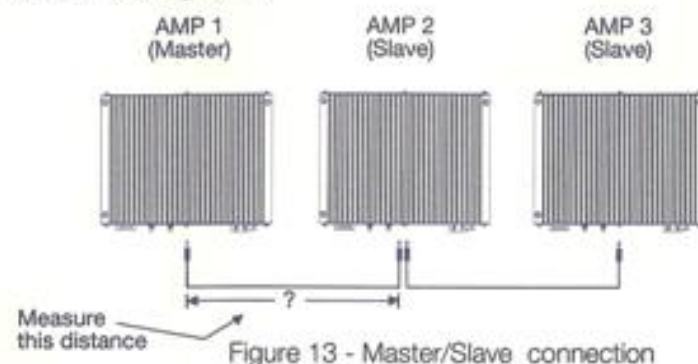

Figure 13 - Master/Slave connection
3. Measure the distance from the first amplifier's "master" output jack to the next amplifier's "slave" input jack (See figure 9). If you use more than 2 PHOENIX GOLD Amps, connect them "daisy-chain" style. The Master / Slave inputs are paralleled internally, so this makes it easy. There is no wrong way to connect master/slave from one amp to another. (See figure 13)